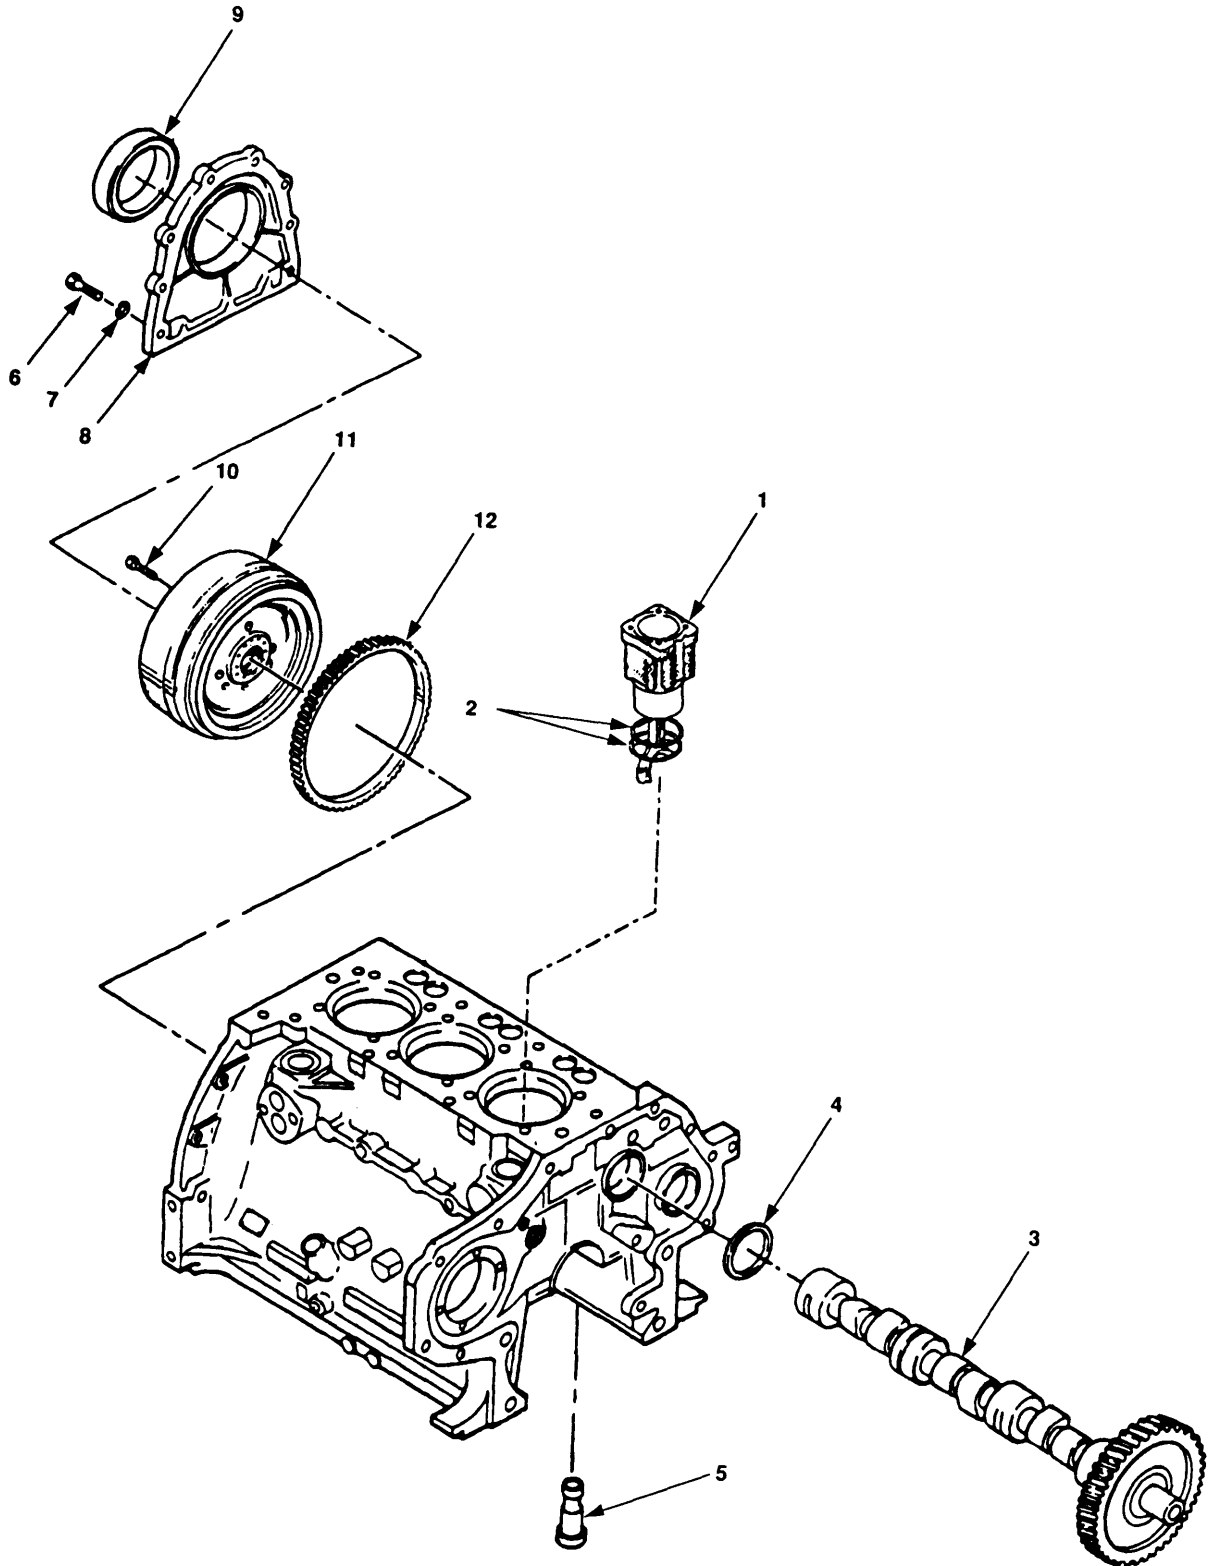

Figure 6-9. Cylinders Camshaft and Flywheel Removal.
- m. Remove cylinders (figure 6-9, 1) and shims (2).
- n. carefully remove camshaft (3), washer (4) and. valve tappets (5).
- (1) Remove eight bolts (6), washers (7), and rear end cover (8).
- (3) Press seal (9) out of rear end cover (8).